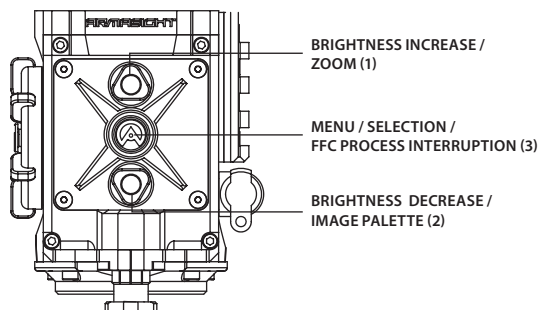

FIGURE 3-16. SETTING BUTTONS
6. Using the buttons on the control panel (Figure 3-16), configure the Helios HD to adapt it to your situation.